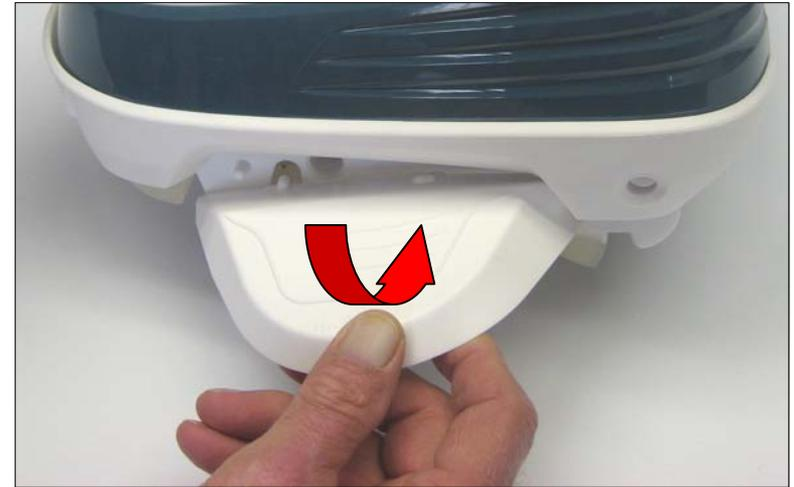

Figure 14
2. Remove the wings by bending the wings up toward the side of the cleaner and lift them off the pod's hooks (fig 14).